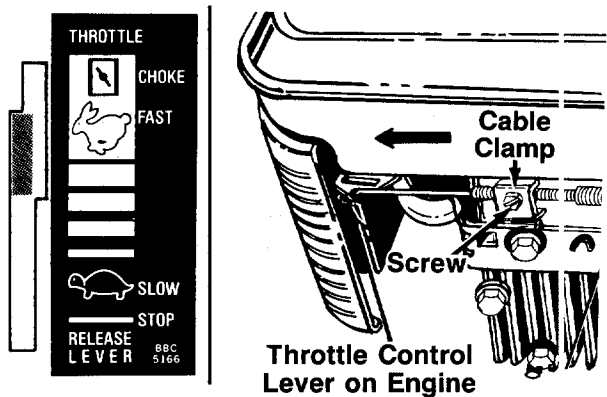

FIGURE 5.
1. Move throttle control lever until it stops in FAST position (do not push all the way forward to CHOKE position). See figure 5.
2. The throttle control cable is attached to the upper handle. Route the throttle control cable under the lower handle and inside the handle mounting bracket. Hook the "Z" end of the throttle control cable into the hole in the control lever on the engine. See figure 5.
3. Using a 5/16" wrench or nutdriver, remove the screw on the cable clamp shown in figure 5. Slip the control casing under the clamp. Replace the screw (casing should be above the screw), but do not tighten screw (cable must still move freely beneath the clamp).
4. Slide the control lever on the engine as far toward the outside of the engine as it will go easily (just until resistance is felt) as shown in figure 5. (Do not force it into the extreme outside position, which is the CHOKE position.) Tighten the screw to secure the throttle control cable in this position.